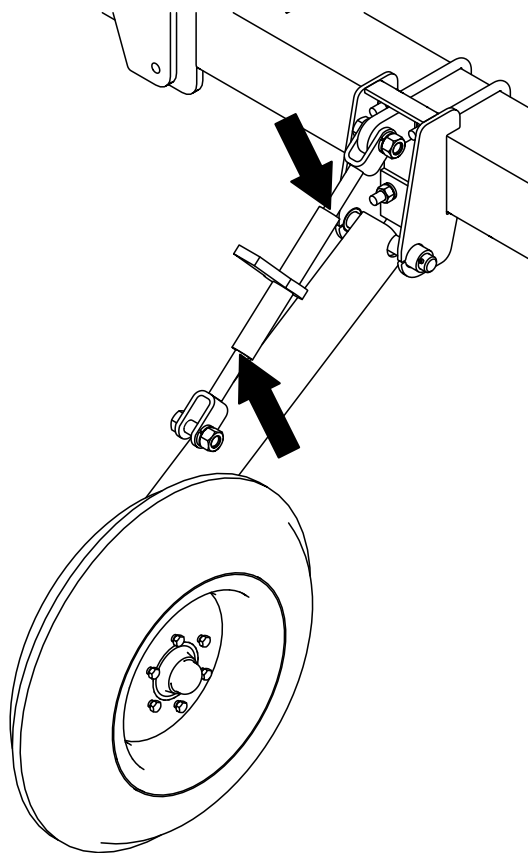

Figure 23 Guide Wheel Screw Jacks
2. Lubricate guide wheel screw jacks (Figure 23)
1. Repack all wheel bearings (Figure 23, 24, 26, 28)